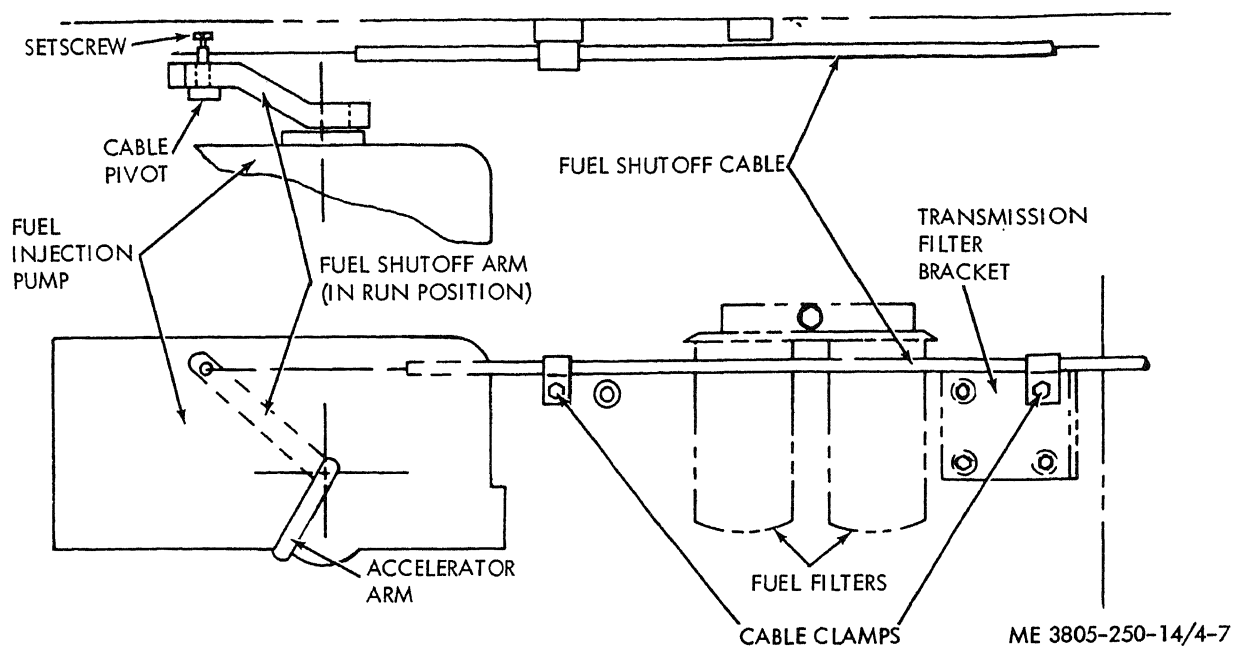

Figure 4-7. Fuel shutoff control adjustment.
e. *Fuel Shutoff Control Adjustment* (fig. 4-7).
(1) Loosen the setscrew on the fuel shutoff arm pivot. The shutoff arm returns to the run position when released.
(2) Push the fuel shutoff handle in until it seats against the mounting ferrule. If necessary, loosen the cable mounting clamps to position the cable in the shutoff arm pivot.
(3) Tighten the cable pivot setscrew and the cable clamps, if loosened.
(4) Start the engine and pull the full shutoff handle all the way out. The engine should stop.